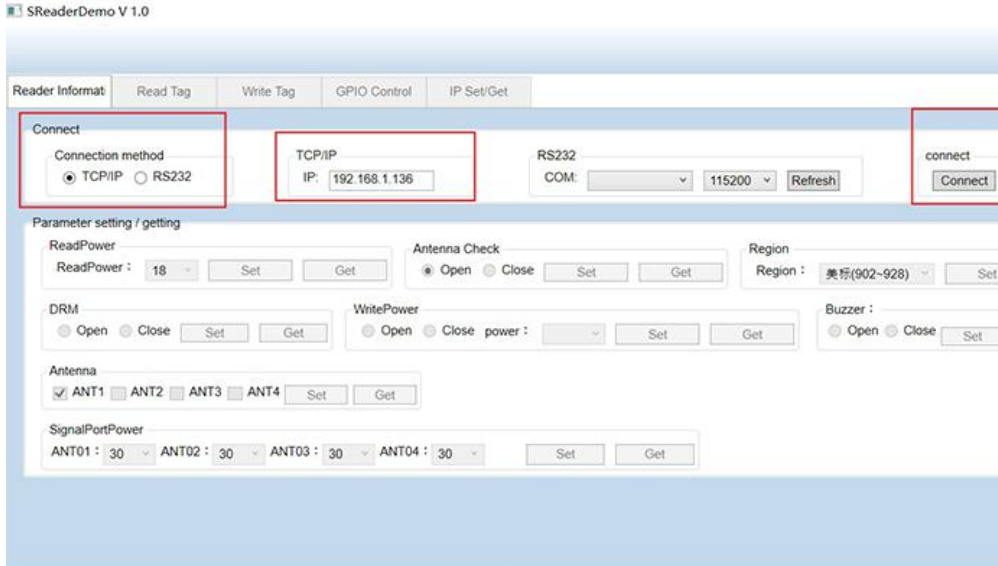

Figure 3
2.4 The default communication mode selected in demo is network port RJ45 . Enter the IP and click “Connect” , as shown in "Figure 3":